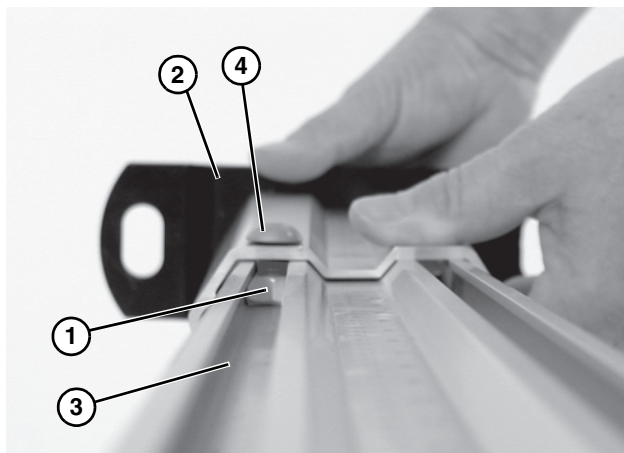

Figure 13
Failure to secure screws (Figure 13, item 4) may cause conveyor sections to drop down causing severe injury.
**TIGHTEN SCREWS (Figure 13, item 4) AFTER ADJUSTMENT.**
- Slide (2) hex nuts (Figure 13, item 1) along with boot assembly (Figure 13, item 2) into outer slots of stand assembly (Figure 13, item 3). Tighten button screw (Figure 13, item 4) to 150 in-lb (17 N-m).